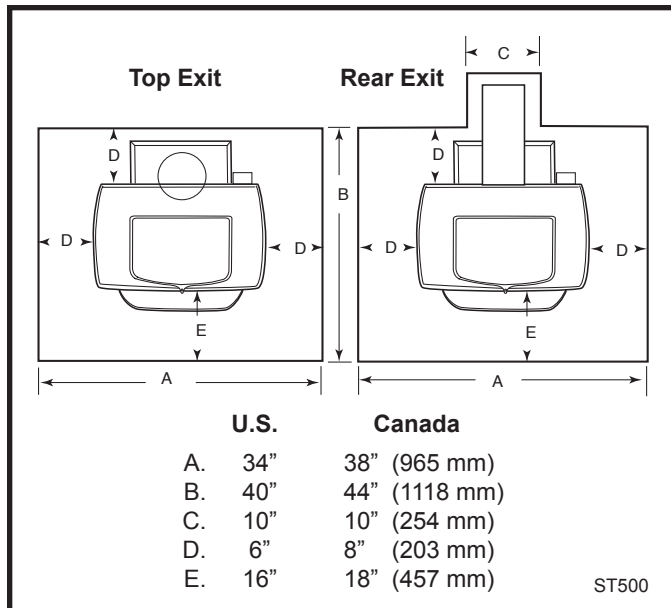

Fig. 11 Required floor protector dimensions.
**In the United States**, the floor protector required under the stove must extend at least 16" from the front of the stove - not from the ashlip - (Labeled 'E' in Fig. 11), and at least 6" from the sides and rear ('D', Fig. 11).
**In Canada**, the floor protector required under the stove must extend 18" (460 mm) to the front (labeled 'E', Fig. 11), and 8" (203 mm) from the sides and rear. ('D', Fig. 11)
Floor protection also must extend under the chimney connector and 2" (51 mm) to either side. ('C', Fig. 11) For 6" (152 mm) connector used with the Intrepid II, the protector must be a minimum of 10" (254 mm) wide, centered under the connector.